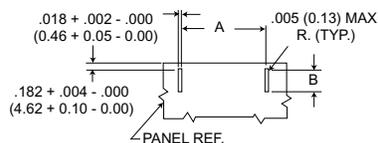

Figure 4
(see Figure 4)
3. Figure 4 is for edge board mounting bracket or edgeboard clip assembly. The .184 ± .002 (2.67 ± 0.05) dimension locates the MD socket insulator flus with the end of the board.